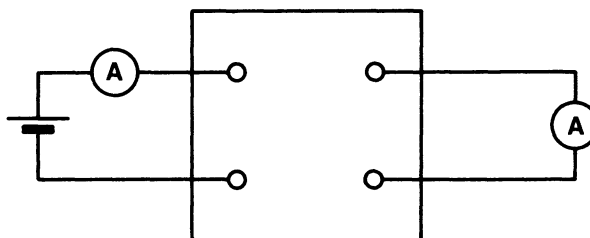

FIG. 3.23
19. A four-terminal box is connected as shown in Fig. 3.23 to a battery and two milliammeters. The currents in the two meters are identical.